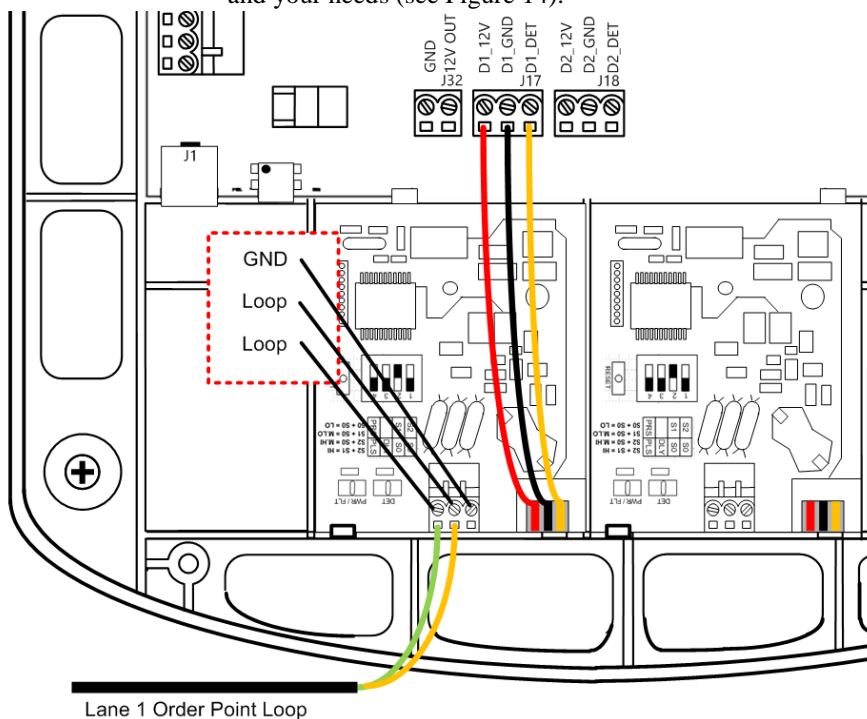

Figure 13
- Carefully install the three wires between the vehicle detector board and the base station board (see Figure 13). The left-to-right pin order is the same on both boards: the left pin on one corresponds to the left pin on the other.